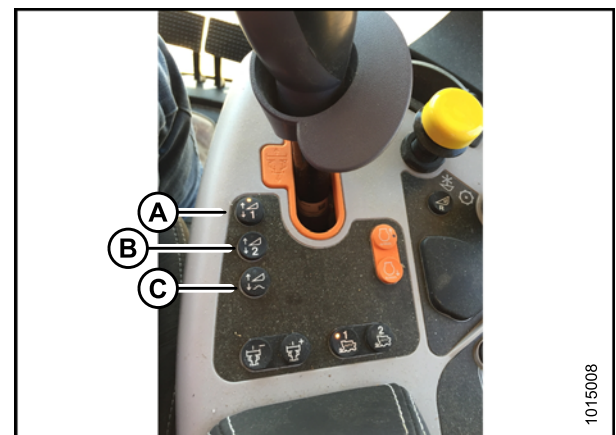

Figure 3.324: New Holland Combine Controls
5. Select one of the auto height set point buttons shown in Figure 3.324: *New Holland Combine Controls, page 199*.